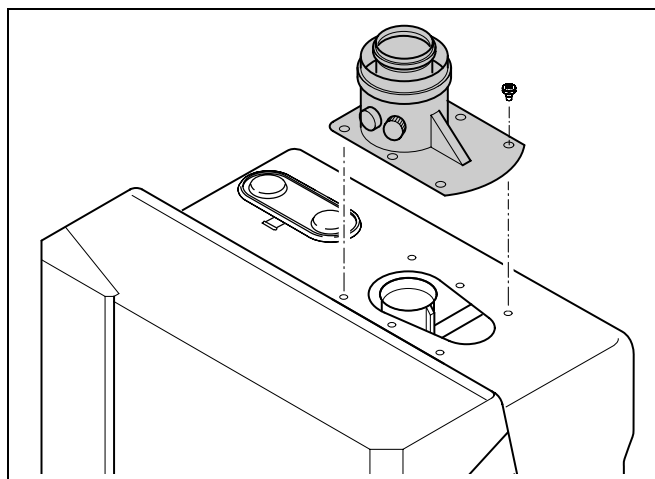

fig. 13 Adaptor plate
- Place the boiler's adaptor plate onto the boiler (fig. 13).